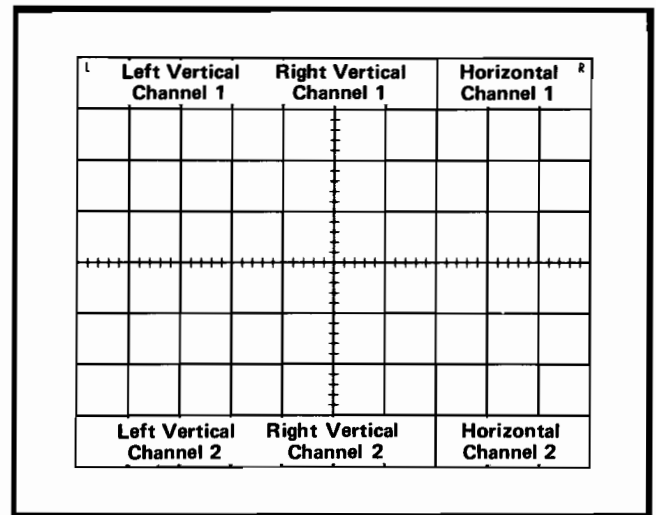

Fig. 3-30. Location of readout words on the CRT identifying the originating plug-in and channel (one complete frame shown, simulated readout).
**Frame**—A frame is a display of all words for a given operating mode and plug-in combination. Up to six words can be displayed in one frame. Fig. 3-30 shows one complete frame (simulated readout) and the position at which each of the six words is displayed.
**Display Format.** Up to six words of readout information can be displayed on the 7503 CRT. The position of each word is fixed and is directly related to the plug-in unit from which it originated. Fig. 3-30 shows the area of the graticule where the readout from each plug-in unit is displayed. Notice that channel 1 of each plug-in unit is displayed within the top division of the CRT and channel 2 is displayed directly below within the bottom division. Fig. 3-32 shows a typical display where only channel 1 of the Right Vertical and both channels of the Horizontal unit are selected for display.
The Format Generator stage provides the output signals to the vertical and horizontal deflection systems of the instrument to produce the character display. The binary Channel Address Code from the Channel Counter stage is connected to this stage so that the display from each channel is positioned to the area of the CRT which is associated with the plug-in and channel originating the word (see Fig. 3-30). The positioning current or decimal point location current generated by the Decimal Point Logic and Character Position Counter stage is added to the horizontal (X) signal at the input to the Format Generator stage to provide horizontal positioning of the characters within each word. The X- and Y-output signals are connected to the Horizontal Amplifier and Vertical Amplifier through the Horizontal Output and Vertical Output Stages respectively.